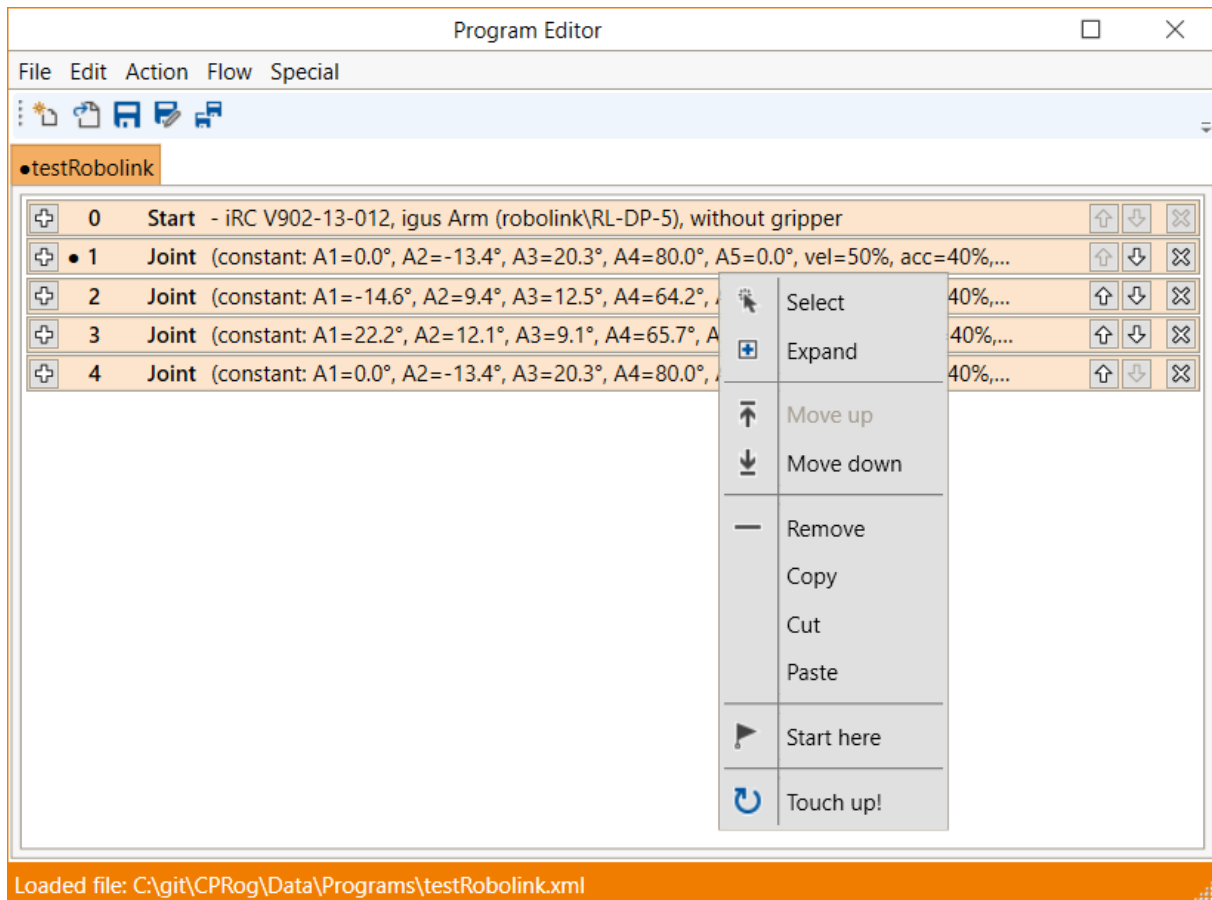

Figure 35: The context menu of a command
To move a command, use the arrows on the right side of the command line. Alternatively, you can click "Down" or "Up" from the command context menu (see Fig. 35).
- Open the context menu by right-clicking on the command and click on "Touch Up!" (see Fig. 35).
To select a specific command as the starting point for execution, click on "Start Here" in the context menu (see Fig. 35).